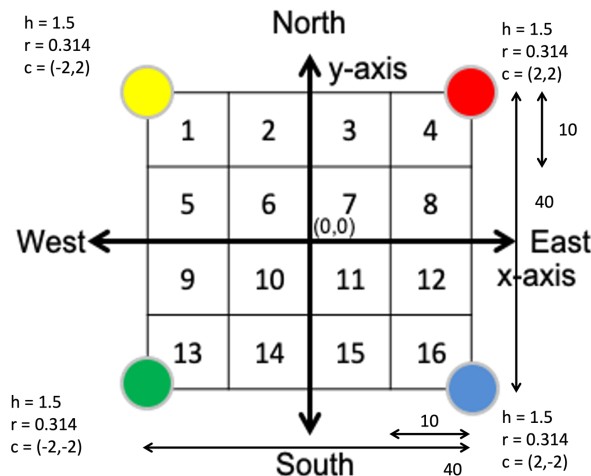

Figure 1. Global reference frame and grid cell numbering scheme. All units in meters.
The global reference frame and grid cell numbering scheme is shown in Figure 1. The positive y-axis points North while the negative y-axis points South. The positive x-axis points East while the negative x-axis points West. Origin (0,0) is in the middle of the arena. The arena consists of 16 grid cells, numbered 1-16, each measuring 1 x 1 meters. There are four colored cylinders (yellow, red, blue & green) located in the corners of the arena, having the same fixed size (radius “r” = 0.314 meters, height “h” = 1.5 meters), and centered “c” at the corners of the grid.
- (a) Visited cells. Use as an example the table below to display already visited cells, where an "X" indicates a visited cell, and "." indicates a yet-to-be-visited cell. The top left corner corresponds to cell number "1" as described in Figure 1.